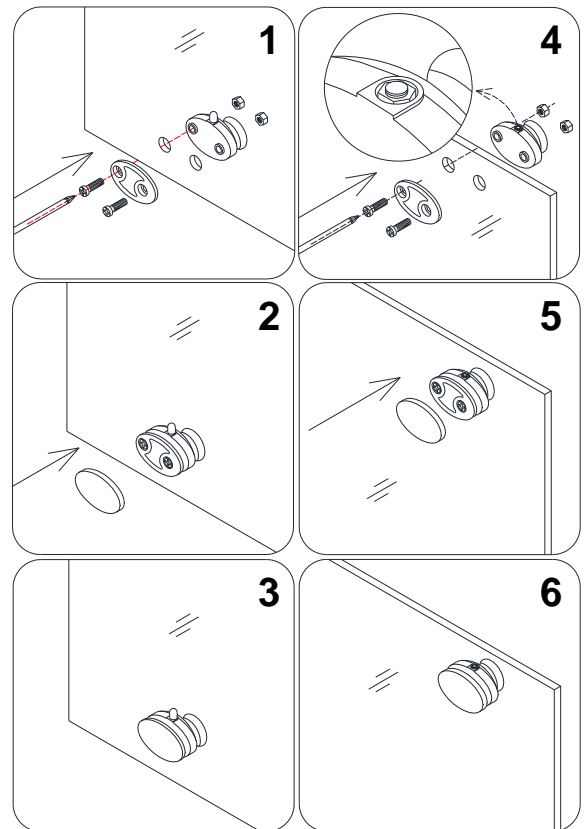

Fig. 11
**NOTE:** Glass Door (04) comes with preinstalled Wheel assemblies (17). If not, please refer to (Fig. 11) for detailed installation.
12. Fasten the top and the bottom **Wheel assemblies (17)** to the **Glass door (04)**. The top wheels can adjust the door level with the adjustable bolt and lock nut. The bottom wheel has a press button to fix the wheel on to the bottom **Guide rail (03)**.
See Fig. 11 for details.